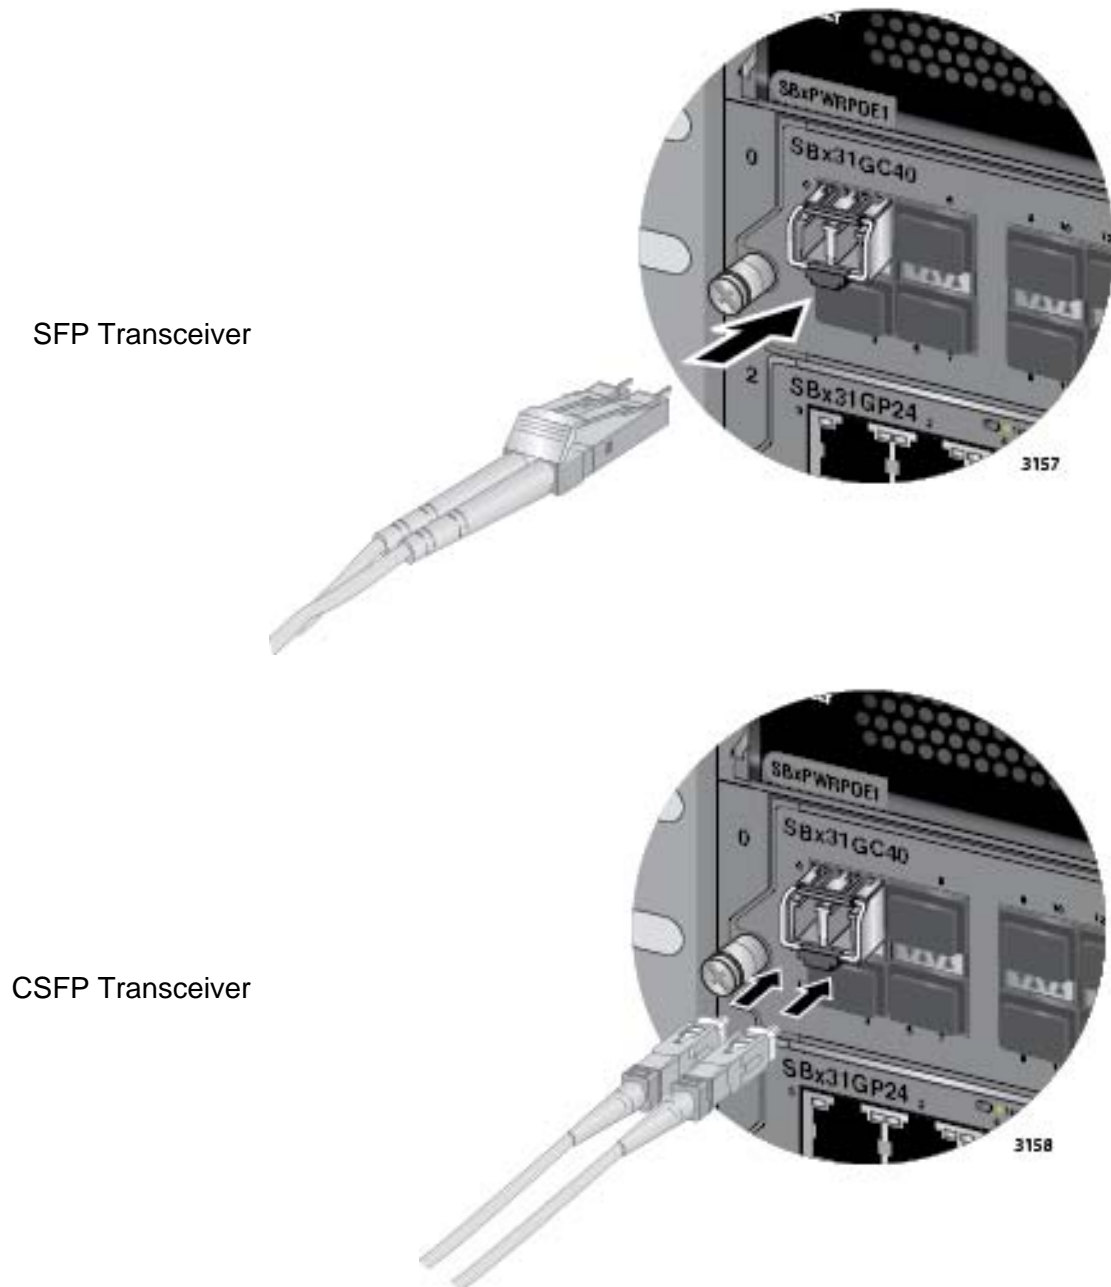

Figure 91. Attaching a Fiber Optic Cable
6. Connect the fiber optic cables to the port on the transceiver, as shown in Figure 91 on page 153. The connectors should snap into the ports. If you are connecting only one cable to a CSFP transceiver, you may connect it to either port.